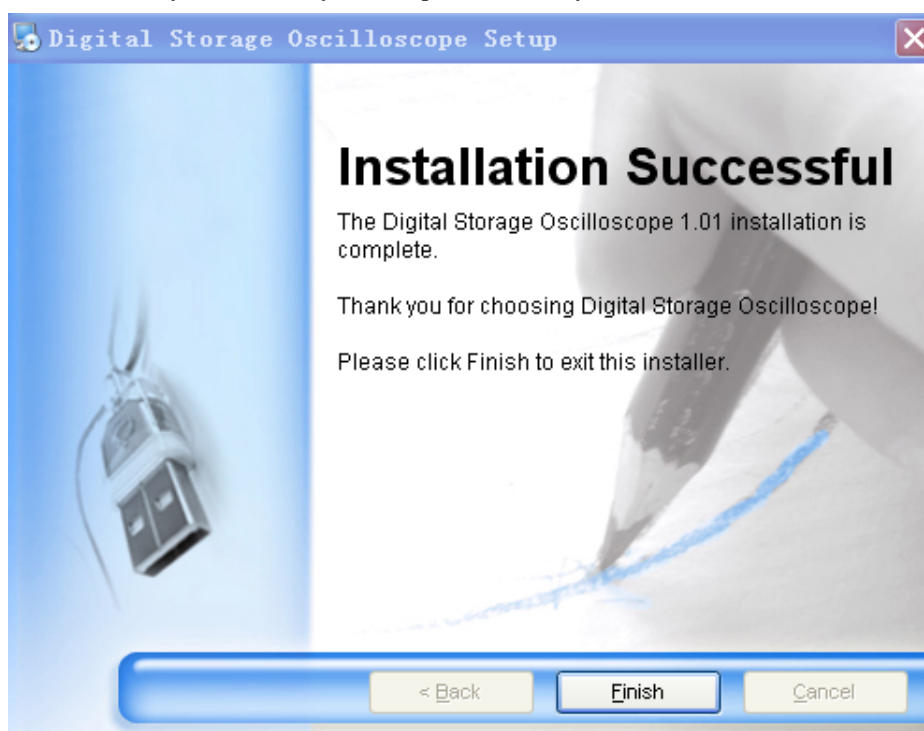

Fig 1-7
**Step seven :** When automatic installation is complete and the box shown in Fig 1-7 pops up, click the [FINISH (F)] button. Your oscilloscope communication and control software is now successfully installed on your computer and ready for use.